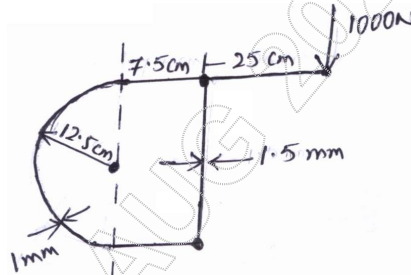

Fig.Q.6(a)
- 6 a. Determine the shear flow and shear centre for the section given below. (Refer Fig.Q.6(a)). (10 Marks)
- b. Calculate the shear flow in the cell structure and obtain the angle of twist per unit length for the structure given below: (Refer Fig.Q.6(b)). (10 Marks)